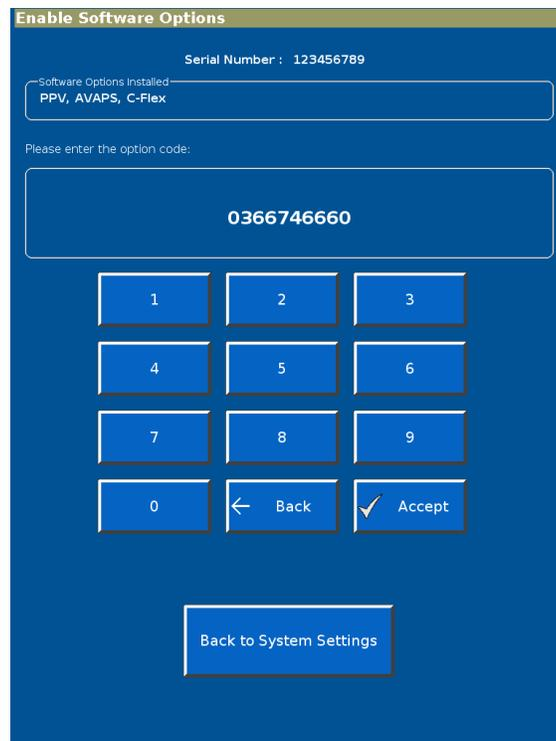

Figure E-8: Enable Software Options screen
1. From the System Settings screen, select Software Options to display the Enable Software Options screen (Figure E-8).